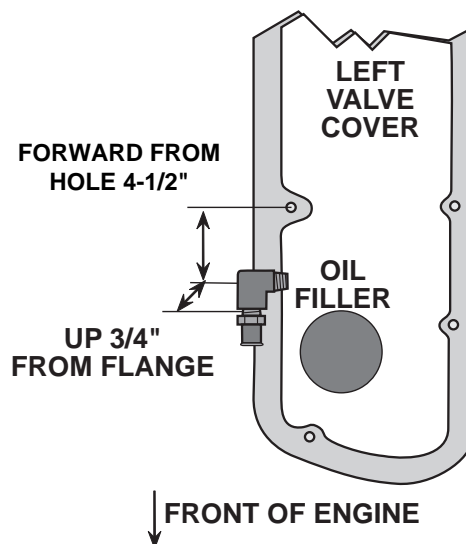

Figure: 3-a
- Measure 4-3/4" forward from the middle of the center bolt hole and up 3/4" from the flange as shown on the inboard side of the valve cover and mark. (See Figure 3-a.)